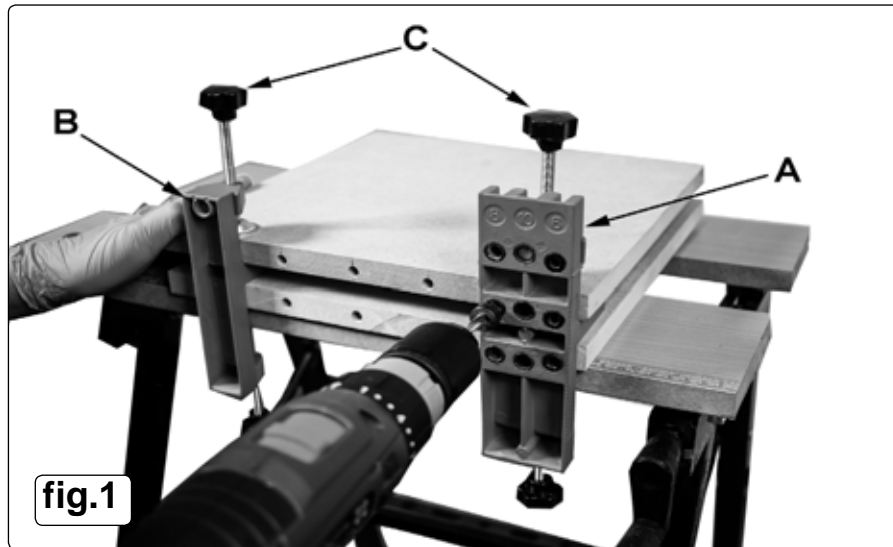

fig.1
5.1. EDGE TO EDGE JOINTING (fig.1)
- 5.1.1. Clamp the first board in position on the work bench using drill jig (fig.1.A) and clamp block (fig.1.B) thus setting the location for the first dowel hole.
- 5.1.2. Rest second board onto drill jig and clamp block platforms and secure with upper clamps (fig.1.C). **TIP:** Support the upper board securely so that the boards lie parallel to each other and ensure that edges are in line.